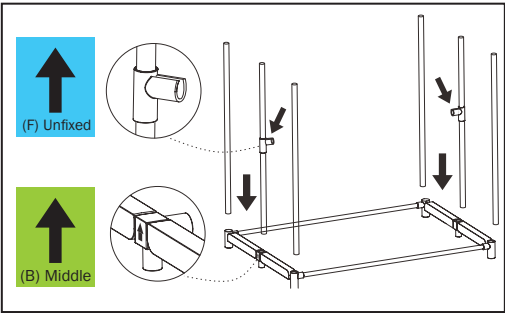

Fig. 2
2. Firstly, using the (C) bottom module, attach the 4 castors wheels to each corner of the module with the arrow facing down.
3. Then place the (B) middle module on the floor with the arrows pointed upwards. Attach 4 (D) large poles in each of the 4 corners and 2 (F) poles with attachments in the middle. Make sure the (F) poles with the fixed plastic are facing upwards (Fig. 2).